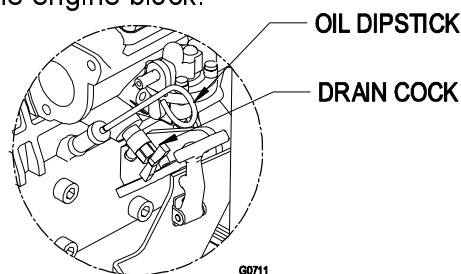
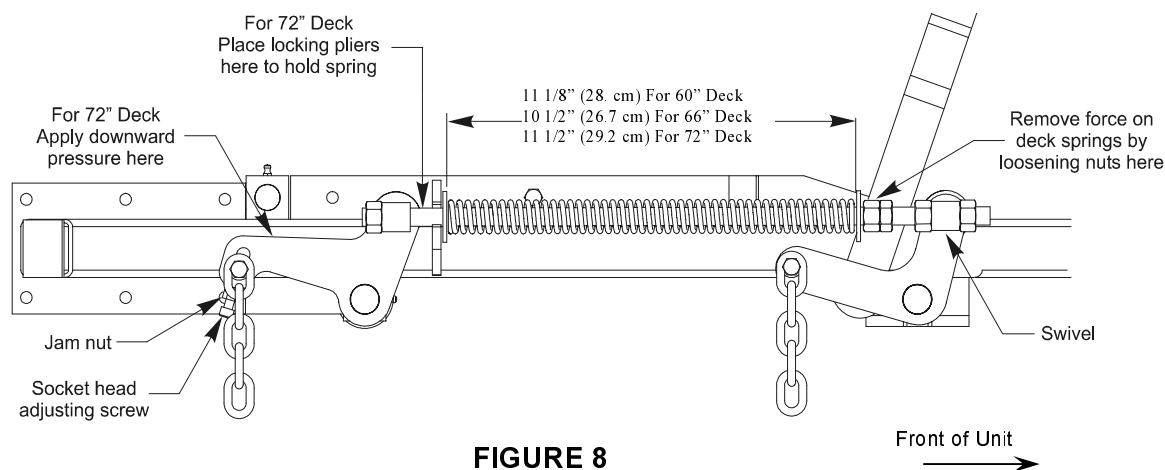

FIGURE 5
FIGURE 8
- e) Raise the deck to the 5" (12.7 cm) height position (also transport position) and take all force off of the two large deck lift springs by loosening the nuts at the front of each spring. See Figure 8.
- l) Raise deck lift lever to the 5" (12.7 cm) cutting height position See Figure 5. Adjust spring compression until proper distance is obtained between the two large washers (See Figure 8). Adjustment is made by turning the nut at the front of each spring (clockwise will shorten the spring, counter-clockwise will lengthen the spring). Lock in position with jam nuts.